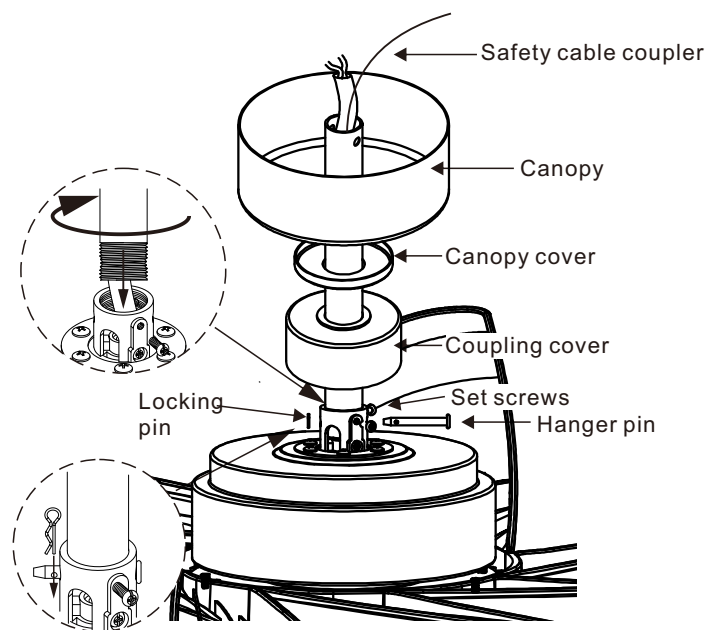

Figure 13
Step 5. Route wires exiting from the top of the fan motor through the coupling cover, canopy cover and canopy, then through the ball/ downrod. (Fig. 13)
Step 6. Thread downrod into the motor coupling until the holes on the downrod and coupling are lined up. Carefully insert the hanger pin through the holes in the collar and downrod. Be careful not to jam the pin against the wiring inside the downrod. Insert the locking pin through the hole near the end of the hanger pin until it snaps into its locked position, as shown in the circle inset of (Fig.13)
Step 7. Tighten two set screws against the downrod on the coupling firmly. (Fig. 13)